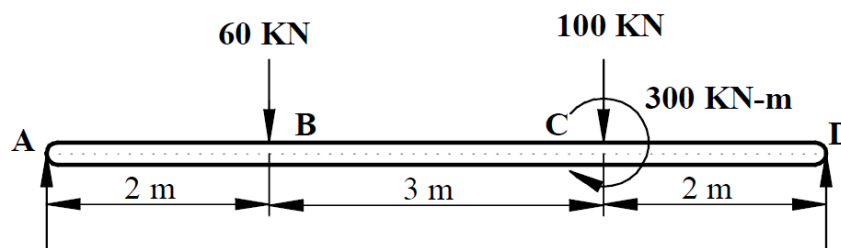

fig3b
- b) Draw the shear force and bending moment diagrams for a simply supported beam subjected to the loads as shown in fig3b. Also find the location of point of contraflexure.